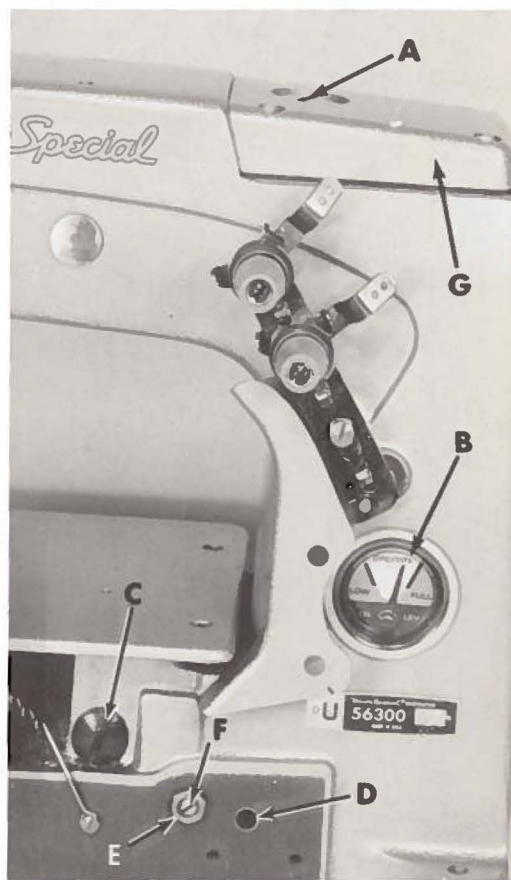

Fig. 2
CAUTION! Oil has been drained from the main reservoir before shipment, so the reservoir must be filled to the proper level as indicated on oil gauge (A, Fig. 1 or B, Fig. 2) before beginning to operate. Run machine slowly for several minutes to distribute the oil to the various parts. Full speed operation can then be expected without damage.
Use a straight mineral oil of a Saybolt viscosity of 90 to 125 seconds at 100° Fahrenheit in the main reservoir. This is equivalent to Union Special specification No. 175. Fill main reservoir at plug screw in upper crank chamber cover (A, Fig. 2) and check oil level at gauge (B). Oil is at maximum safe operating level when needle is to the black line, located to the right of "OPERATE" zone, marked "FULL". Oil should be added when needle is to the black line, located to the left of "OPERATE" zone, marked "LOW". See paragraph under "Changing Stitch Length" in Catalog No. 129 M, Fourth Edition, for repacking feed rocker bearings.
For machines in operation check the oil for lint deposits at reasonable intervals. If dirty, change the oil. An oil change is recommended every 2000 operating hours. Oil may be drained from main reservoir by removing plug screw (C, Fig. 2) located below the cloth plate at front of the machine, or by removing the lower crank chamber cover, located at the back of machine.
2. Remove the oil reservoir plug screw (C, Fig. 2) and tip machine forward to drain oil from the reservoir.
5. Fill main reservoir to a level even with the bottom contour of the knee press shaft bushing (D, Fig. 2).
6. Loosen lock nut (E) on calibrating screw (F), and turn the screw to the left or right until the gauge needle rests on the black line, located to the left of "OPERATE" zone, marked "LOW".
7. Tighten lock nut (E) and replace plug screw (C) and lower crank chamber cover.